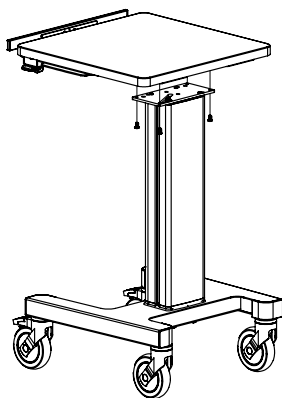
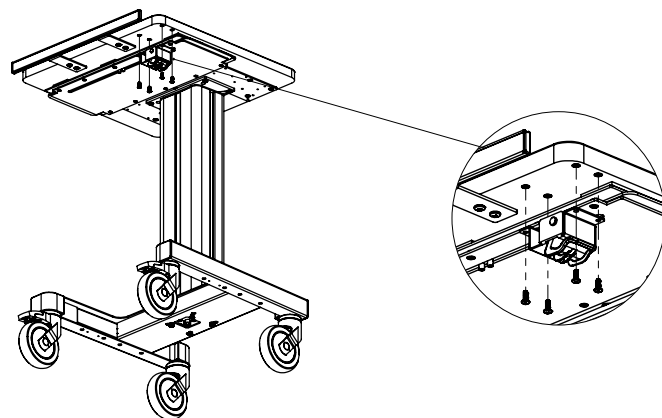

Figure 4
Figure 5
4. Place the **WORKTOP** (**Box 2/2**) on the **COLUMN** top plate and fasten 4x **1/4 - 20 x 3/8" LONG SCREWS** (**HARDWARE KIT** taped to top of **COLUMN**) (**Figure 4**). Fit the lever housing to the **WORKTOP** with 4x **1/4 - 20 x 1/2" LONG SCREWS** (**HARDWARE KIT** taped to lever housing). (**Figure 5**)